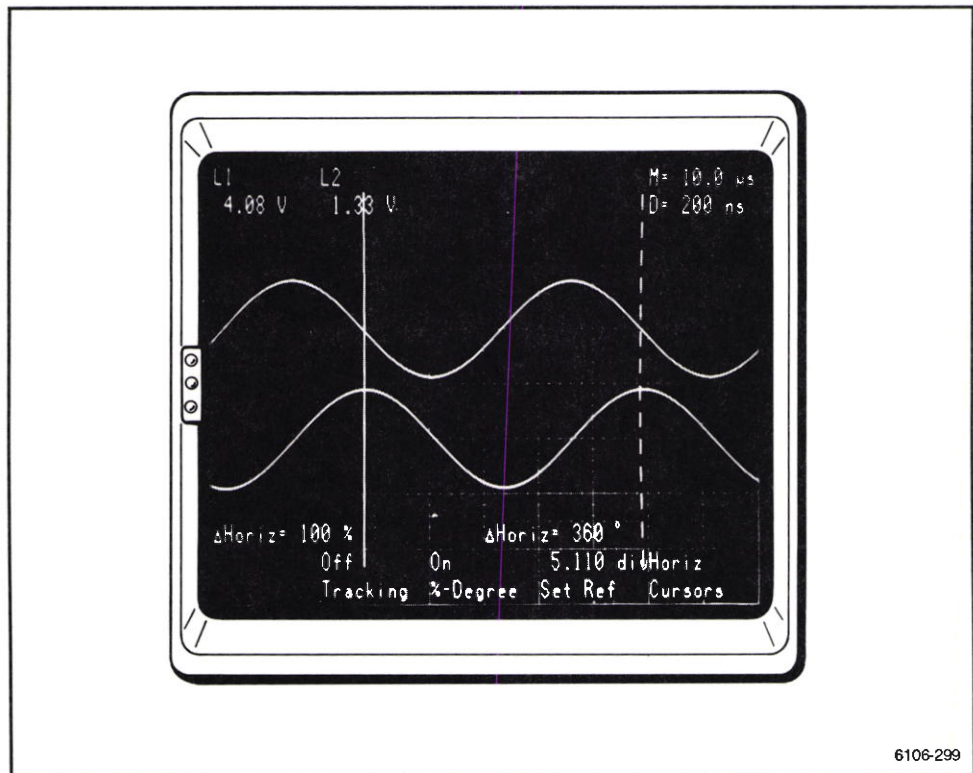

Figure 2-100. Selecting one cycle with the Horizontal Cursors.
- Adjust both Cursors to span one cycle of the leading trace. Each cursor should intersect the trace and the horizontal graticule line which bisects the trace. (See Fig. 2-100.)